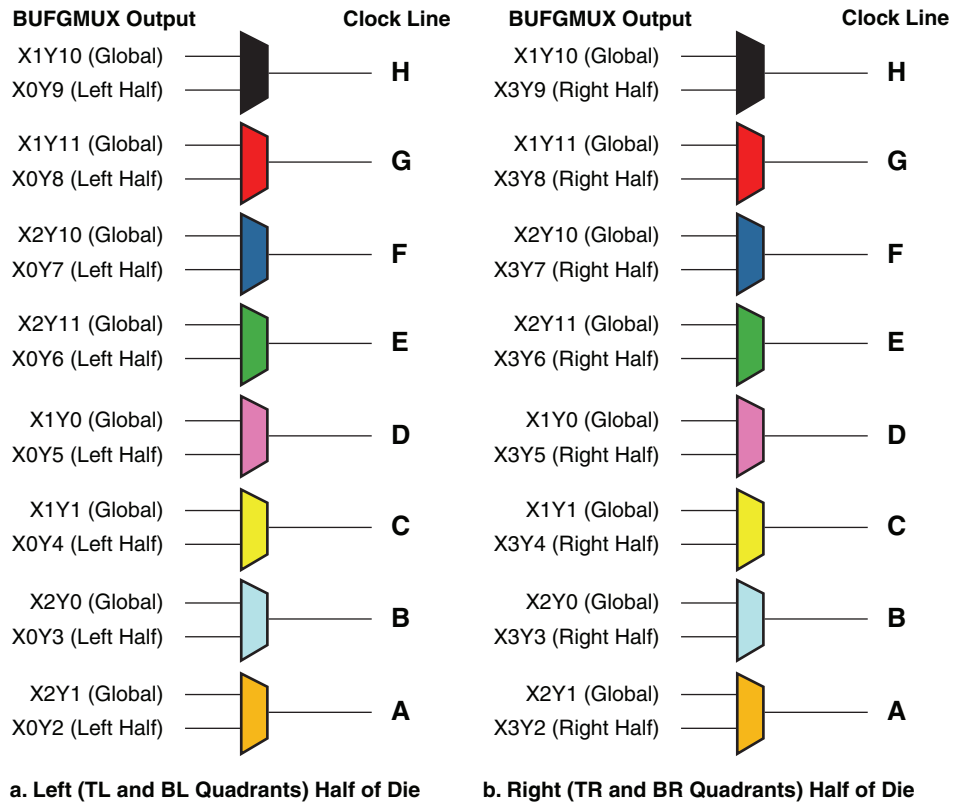

Figure 47: Clock Sources for the Eight Clock Lines within a Clock Quadrant
2. See Figure 45 for specific BUFGMUX locations, and Figure 47 for information on how BUFGMUX elements drive onto a specific clock line within a quadrant.
The clock routing within the FPGA is quadrant-based, as shown in Figure 45. Each clock quadrant supports eight total clock signals, labeled 'A' through 'H' in Table 41 and Figure 47. The clock source for an individual clock line originates either from a global BUFGMUX element along the top and bottom edges or from a BUFGMUX element along the associated edge, as shown in Figure 47. The clock lines feed the synchronous resource elements (CLBs, IOBs, block RAM, multipliers, and DCMs) within the quadrant.
in a single clock quadrant. Figure 47 shows how the clock lines in each quadrant are selected from associated BUFGMUX sources. For example, if quadrant clock ‘A’ in the bottom left (BL) quadrant originates from BUFGMUX_X2Y1, then the clock signal from BUFGMUX_X0Y2 is unavailable in the bottom left quadrant. However, the top left (TL) quadrant clock ‘A’ can still solely use the output from either BUFGMUX_X2Y1 or BUFGMUX_X0Y2 as the source.